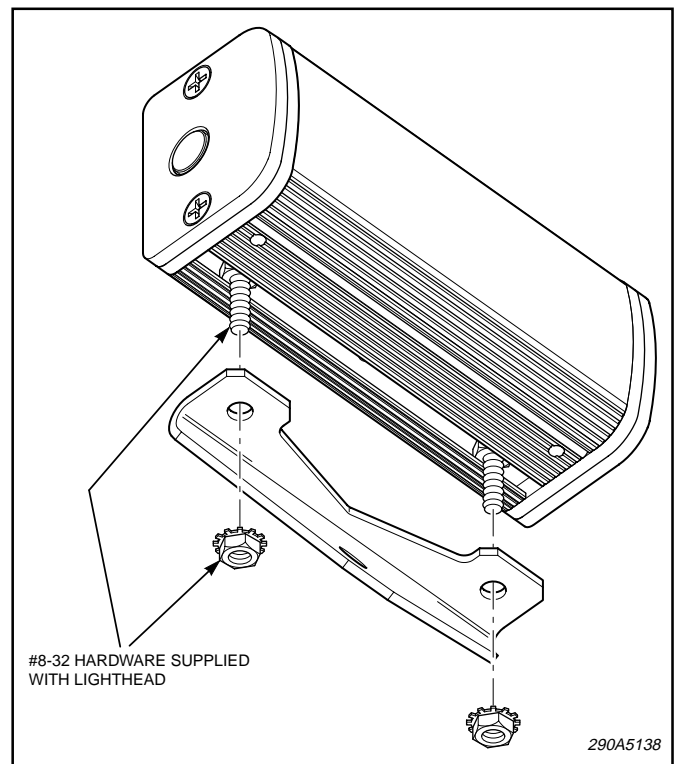

Figure 1.
1. See figure 1. Secure the mounting bracket to the light head using the #8-32 KEPS nuts supplied with light head. Ensure that drain holes in the light head will be pointing down when installed on vehicle. Refer to instructions packaged with light head for details.